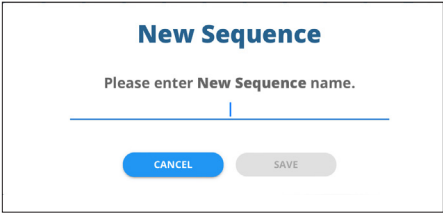
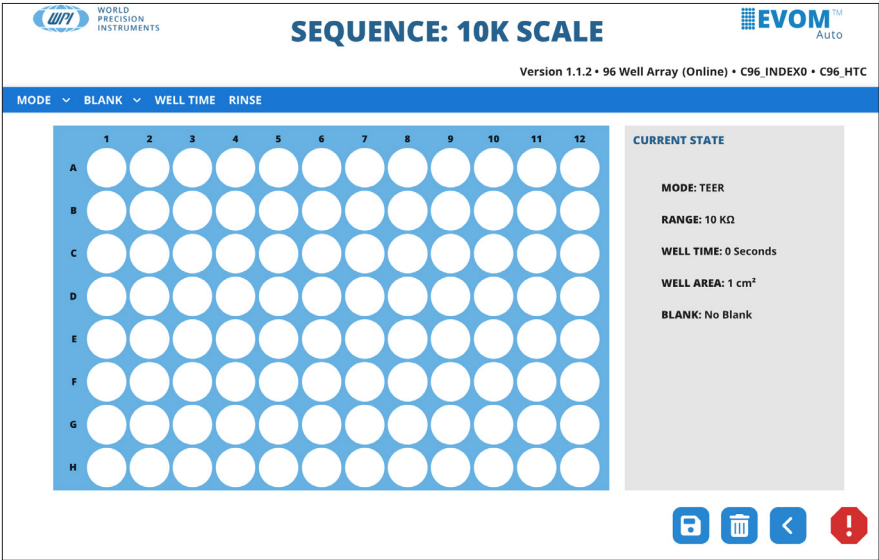

Fig. 25—Use this popup to name your sequence.
Fig. 26—The *Sequence* window lets you define a sequence.
3. If there is more than one EVOM™ Auto systems being used with the iPad, you will need to go to the Wi-Fi settings on the iPad to select your device in order to establish a connection. Sometimes the bookmarked URL may not work to establish a connection. If a connection is unsuccessful, ensure that the iPad is connected to the correct Wi-Fi network for your EVOM™ Auto. Then, click on the WPI icon (Fig. 26). If you are not using the provided iPad tablet, open a browser and navigate to <https://192.168.54.1:5000>.
If you select *New Sequence*, a popup allows you to name the sequence (Fig. 25). Enter a name and press *Save* to continue or *Cancel* to return to the main window without saving. The *Sequence* window appears (Fig. 26). The new sequence name is displayed on top of the window.